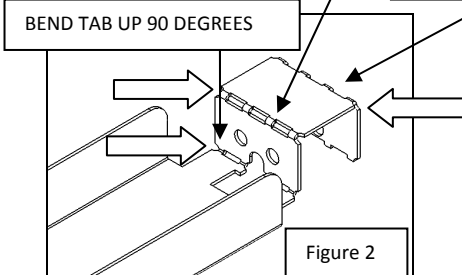

Figure 2
2. Form tab up 90 degrees, then bend tab down 90 degrees, finally bend the last tab down 90 degrees (See Fig. 2)
2. Break off tab of detached bracket, keep end bracket for use later (See Fig. 2)